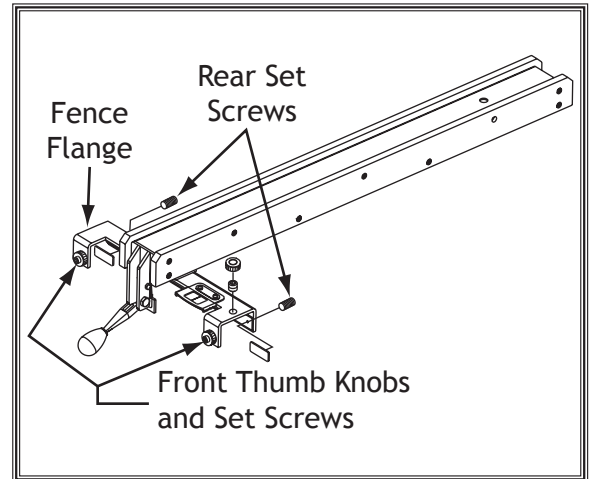

Figure 103. Locations of front thumb knobs and front and rear set screws.
3. Unscrew the front thumb knobs and set screws shown in **Figure 103** until they are barely threaded into the fence flange.
4. Back out the rear set screws until they are just barely threaded into the fence flange (see **Figure 103**).
3. Turn each rear set screw in $\frac{1}{6}$ th of a turn (see **Figure 103** on the previous page).
8. Loosen both front thumb knobs (see **Figure 103** on **Page 65**). Tighten the set screws so they just touch the fence tube, back off the set screws $\frac{1}{2}$ turn, then re-tighten the thumb knobs.